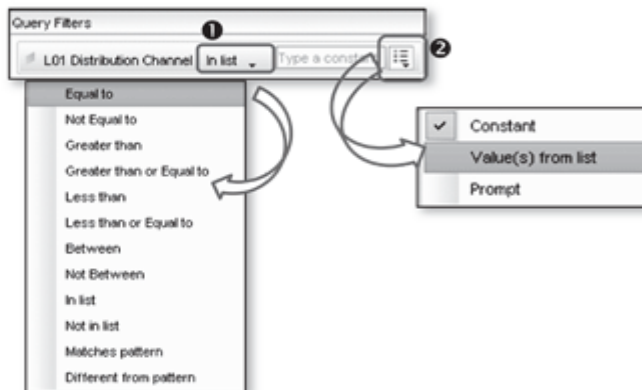

Figure 13.24 Filter Definition
A WebI query filter restricts the query result based on the conditions defined in the filter. There are different options available to define a particular filter; you can select its behavior from different conditional operators available in the dropdown list (❶ in Figure 13.24). Also, you can define the type of restriction for the data